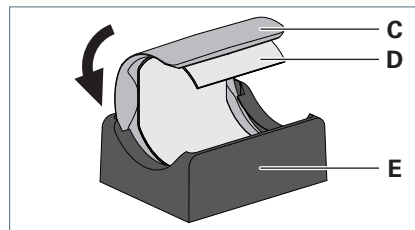

Fig. 3: Mounting the insert in the intermediate holder.
- ▶ Slide the insert **C** in the groove of the intermediate holder **E** until the open side of the insert points upwards, see Fig. 3.